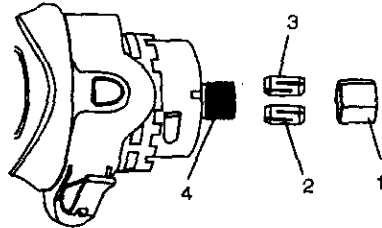

Fig. 3
The cutting bits for this tool are locked into place with a collet nut (1) and collet (see Fig. 3). The tool is assembled at the factory with NO collet installed. Both the 1/8" and 1/4" collets can be found in the carrying case front lid storage compartment. The 1/8" collet (2) is used for holding hobby tool accessory bits. The 1/4" collet (3) is supplied for holding SMALL router bits with a 1/4" shank.